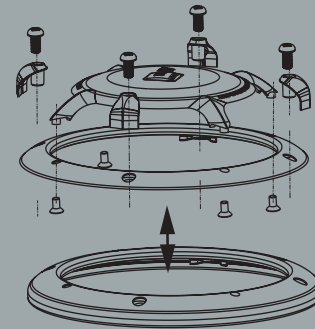

Figure 19.
- The GTi competition speaker systems include a choice of grille trim. See Figure 19 to change to the carbon fiber grille trim.